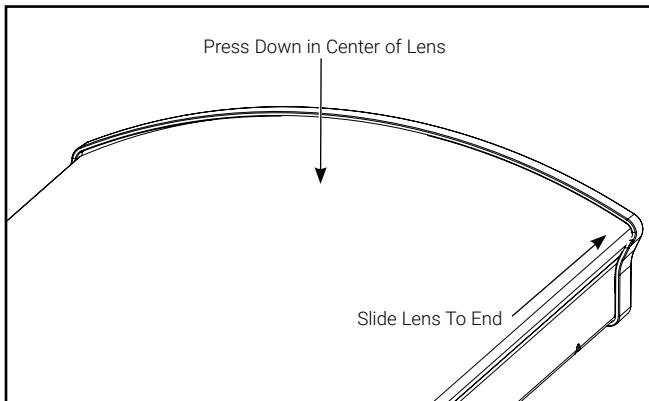
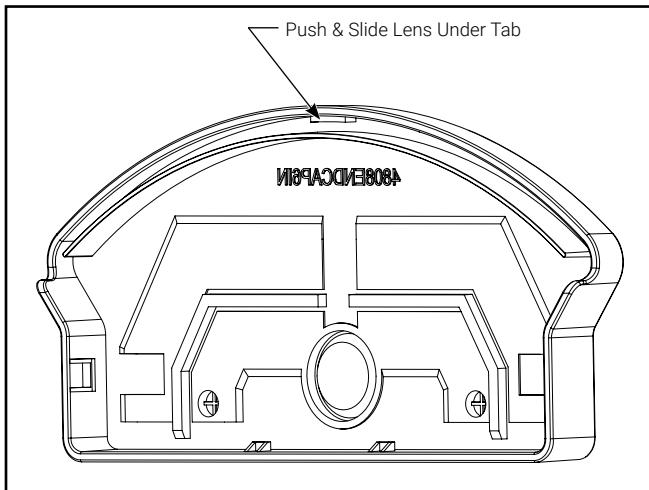
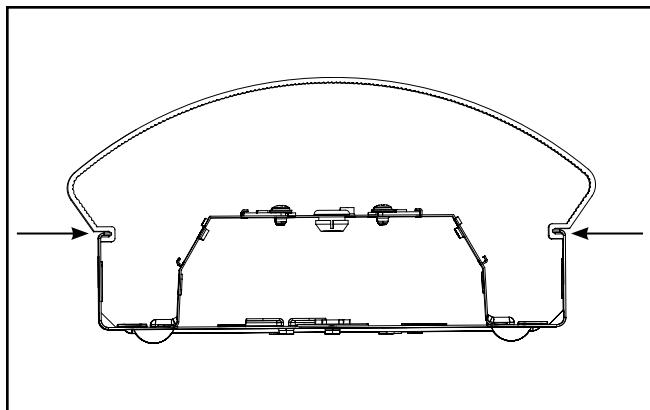

Figure 1.
Figure 2.
Figure 3.
2. Remove lens from luminaire by starting at one end of the fixture and pressing in the center of the lens. While pressing down on the lens, slide lens to fixture end (Figure 1). There is a tab that the lens must slide underneath to allow it to be removed (Figure 2). Remove by squeezing the sides of the lens, while pulling up to release it from the grooves in the housing (Figure 3).